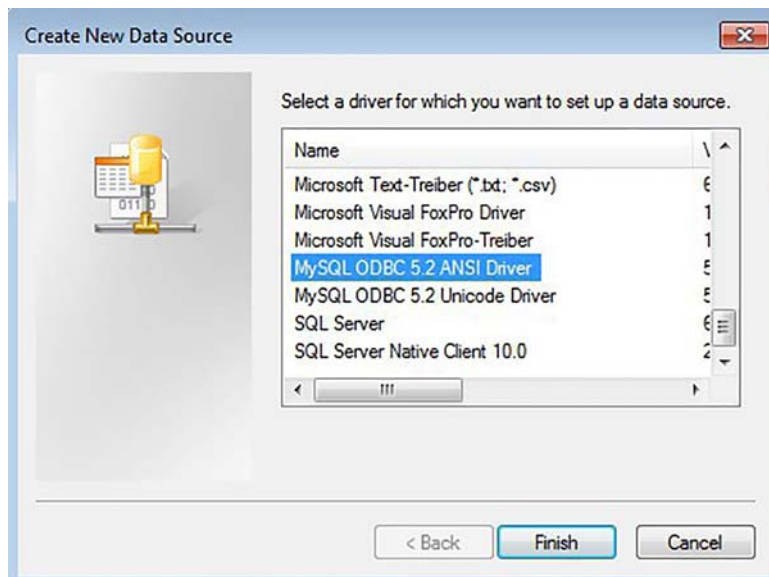

Figure 5-3. Create New data Source
4. In the **Create New Data Source** dialog, scroll down to select **MySQL ODBC 5.2 ANSI Driver** (or equivalent). See Figure 5-3.